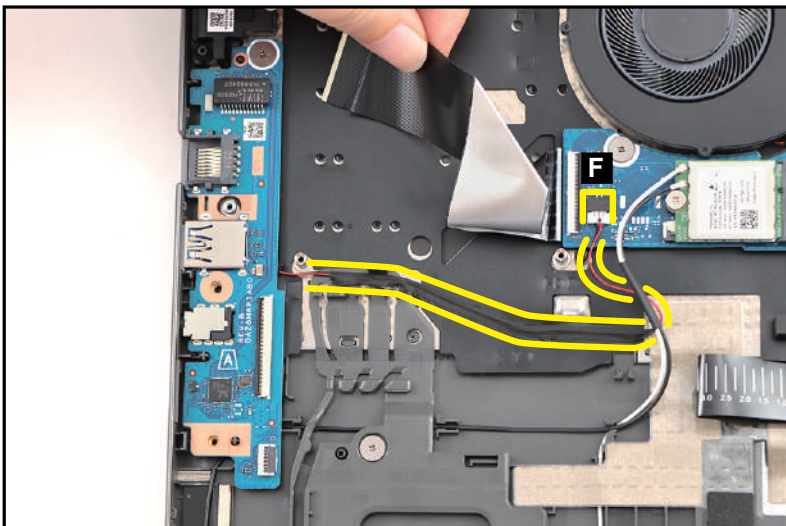

Figure 3-15. Smart Card Holder Removal
4. Disconnect the right speaker cable from the mainboard connector (F). Then unroute and detach the cable from its underneath adhesive as shown in Figure 3-15.